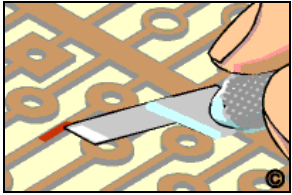

Figure 3: Scrape off the bonding film from solder joint area on the back side.
7. Before trimming out the new land carefully scrape off the bonding film from the solder joint connection area on the back side. (See Figure 3).